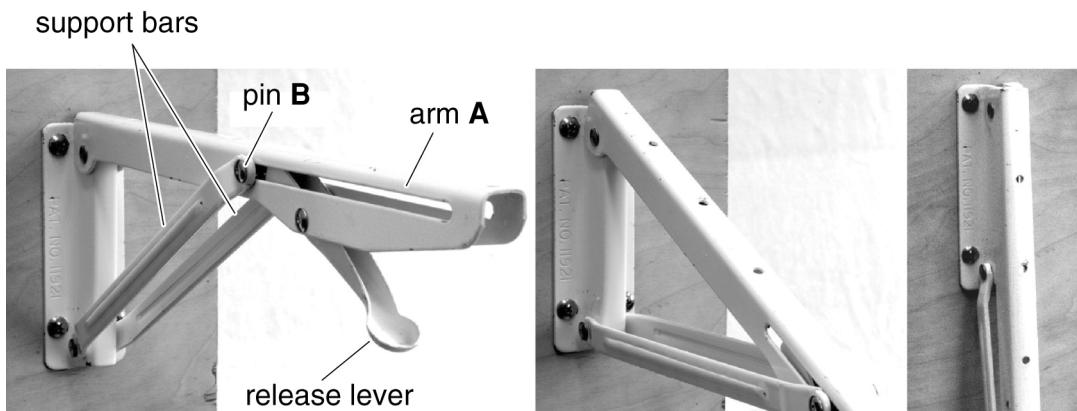

Fig. 5
- (b) The collapsible shelf bracket shown in Fig. 5 has two support bars made from mild steel.
- (ii) State the conversion of motion that is taking place between arm **A** and pin **B** when the support in Fig. 5 is lowered or raised.